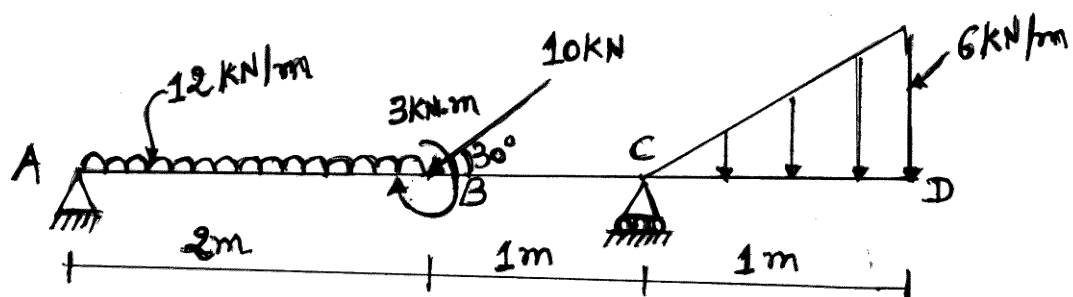

Fig:1
- (1) Hardness (2) Brittleness (3) Ductility (4) Malleability
(5) Elasticity (6) Strength (7) Toughness.
- Q.2 (a)** A simply supported overhanging beam ABCD is loaded as shown in Fig:1. Calculate **07**